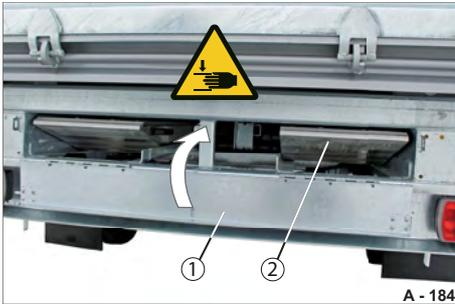

Fig. 195 Securing ramp planks
- ▶ Close the flap (Fig. 195/1) of the ramp plank bay.